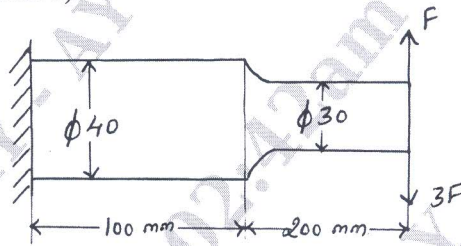

Fig.Q4(b)
- b. A cantilever beam shown in Fig.Q4(b) is subjected to load variation for $-F$ to $3F$. Determine the maximum load that this member can withstand for an infinite life, using a factor of safety 2. The material of the beam is SAE 1025, water quenched steel ($\sigma_u = 620.8\text{MPa}$, $\sigma_y = 400.1\text{MPa}$, $\sigma_{-1} = 345.2\text{MPa}$).